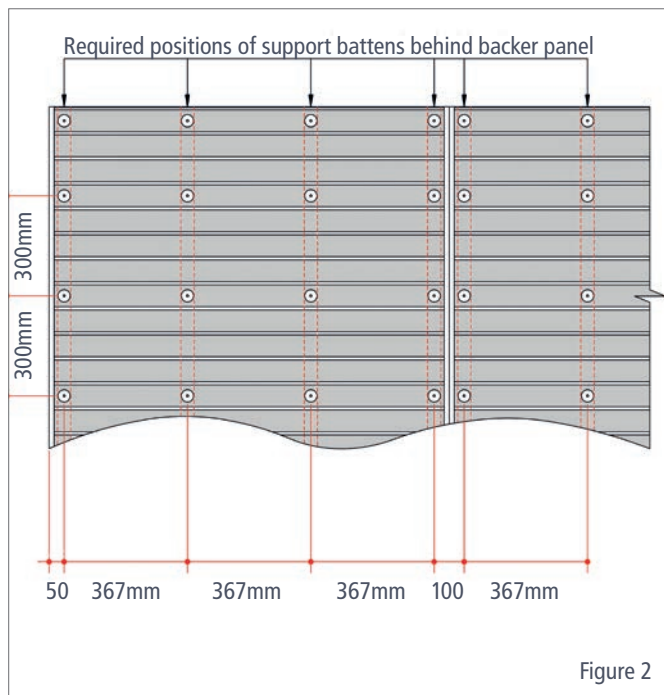

Figure 2
- 2. SUPPORTING FRAME MEMBER SPACING** Where P-Clad panels are to be fixed to battens or studs (creating a cavity), these must be set out to satisfy system fixing requirements. There must be 4 vertical fixing members behind each 1.2m wide panel. See Figure 2 (page 2).
P-Clad panels are normally fixed to vertical battens or studs, top hats or other bracket systems. These must be located accurately to coincide with system design fastener layout. See Figure 2 (page 2).